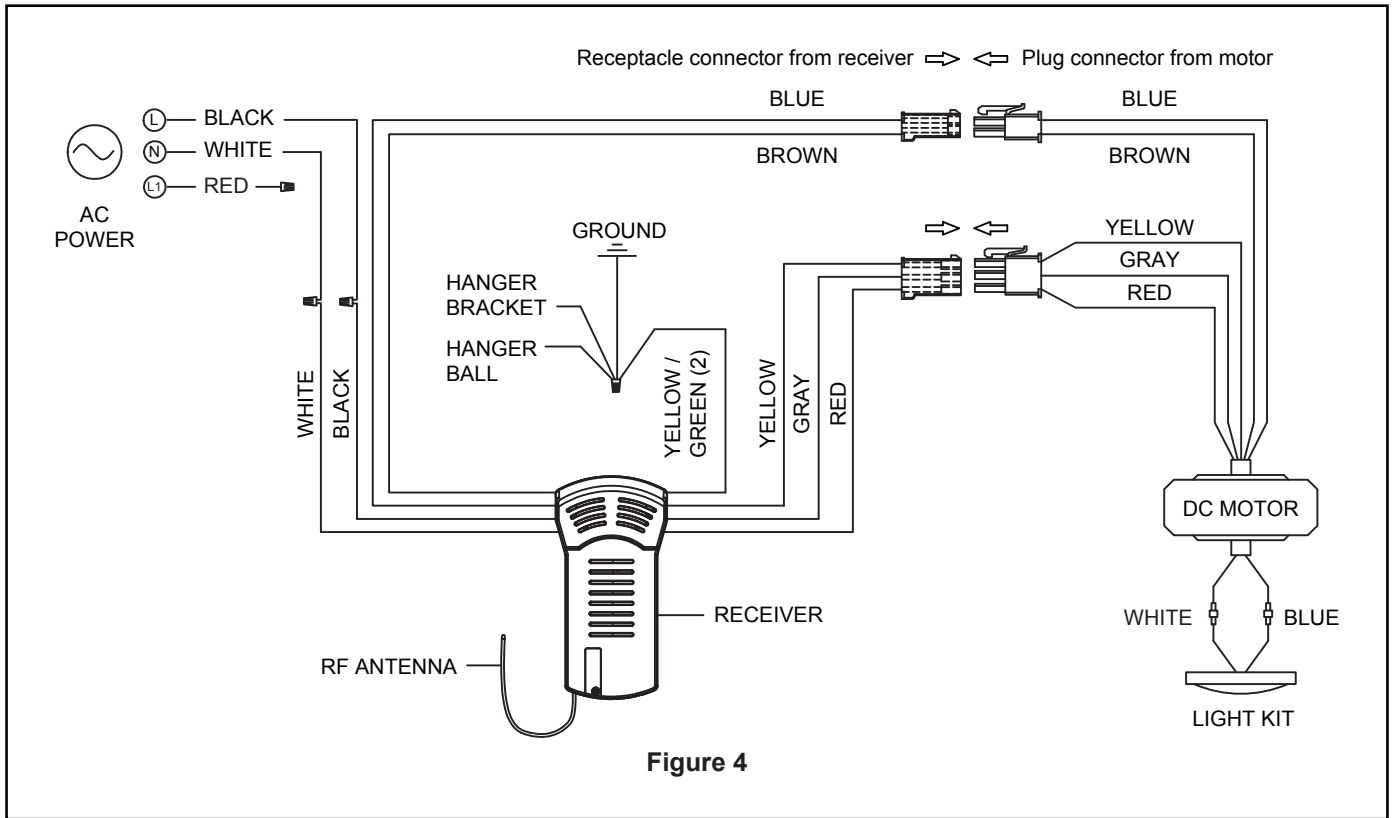

Figure 4
3. Connect wires using connectors as shown in Figure 4. Connect the 2 pin connectors from the motor assembly to the 2 pin connectors from the receiver, connect the 3 pin connectors from the motor assembly to the 3 pin connectors from the receiver.